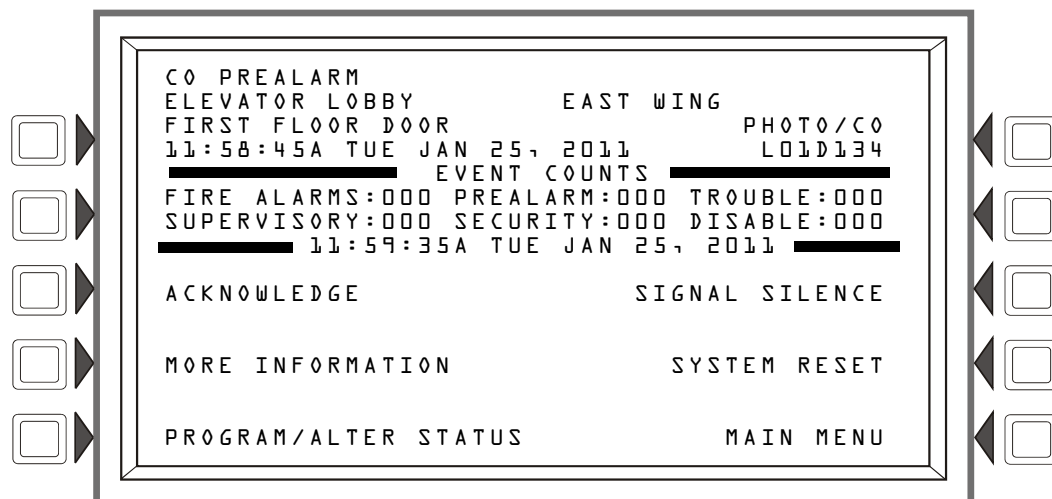

Figure 2.9 Sample CO Pre-alarm Message
- Displays CO PREALARM in the upper left corner of the LCD, the type code and other information specific to the detector as shown in Figure 2.9.